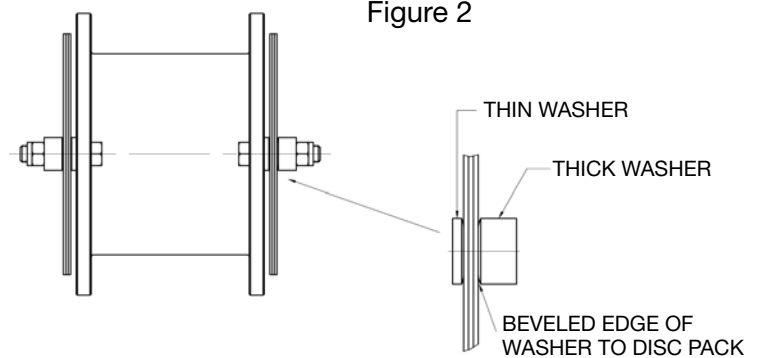

Figure 2
2. Assemble the flex discs to the spacer as shown in Figure 2. Ensure that the beveled part of the washer is against the flex disc. Tighten the nylon locking nuts shown in Figure 2 to the proper torque value as indicated in Table 2 for the respective size coupling.
Assemble the spacer to the hub via the same method as Item 2 (see figure 2 for reference). Secure the bolts with the nylon locking nuts and tighten to the proper torque value shown in Table 2 for the respective size coupling.
5. With equipment aligned and coupling assembled, make sure all bolts and washers are in their proper orientation. As stated previously, the beveled part of the washer must be against the flex discs as shown in Figure 2.